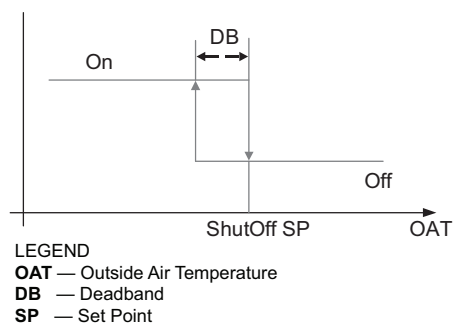

Fig. 70 — Hysteresis Settings
Hysteresis setting (DB) defaults to 2°F (−16.6°C). See Fig. 70.